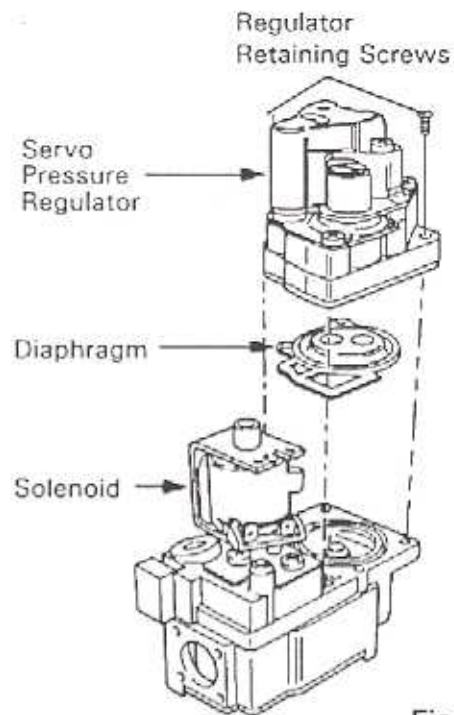

Fig.33
- 8.13.8 Servo Pressure Regulator (Fig. 33)
- 8.13.12 Release 2 screws securing regulator to valve body.(fig.33)